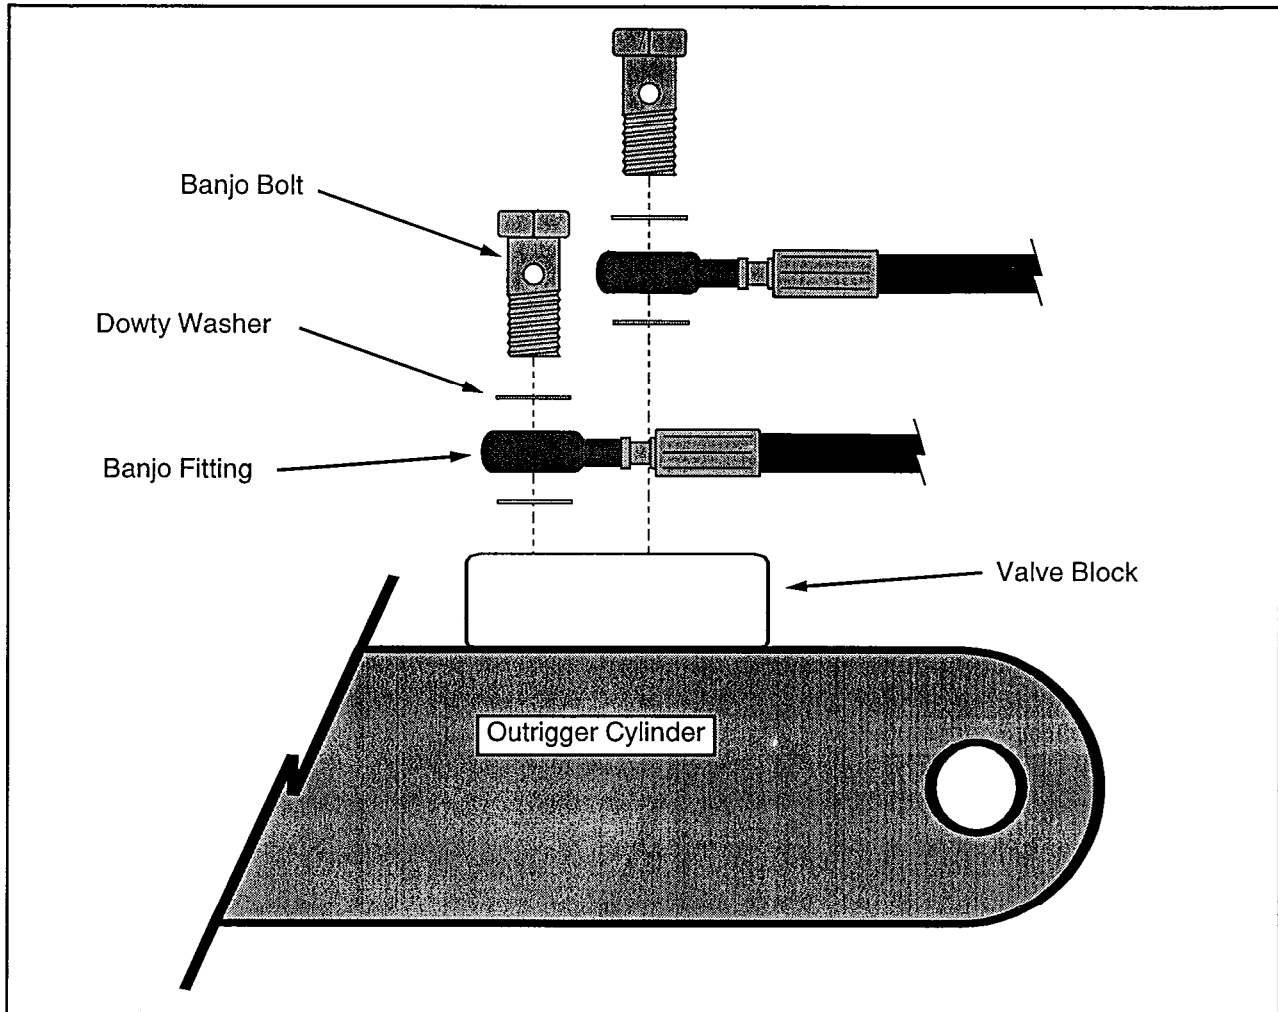

Figure 3
2. Install replacement banjo bolts, dowty washers, and existing banjo fittings onto outrigger cylinder valve block per figure 3.